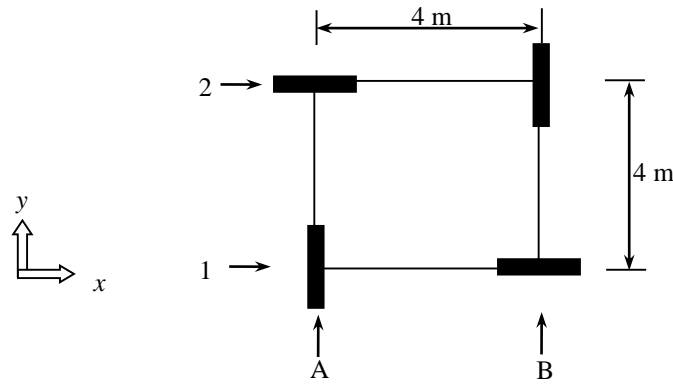

Figure 2
**Q.2 (a)** Figure 2 shows the plan of single storey building with four shear walls. Consider the stiffness of shear wall about stronger axis as '9k' and stiffness of about weaker axis as 'k'. Calculate the joint forces on each frame considering the storey shear of 100 kN along earthquake in x-direction. **07**